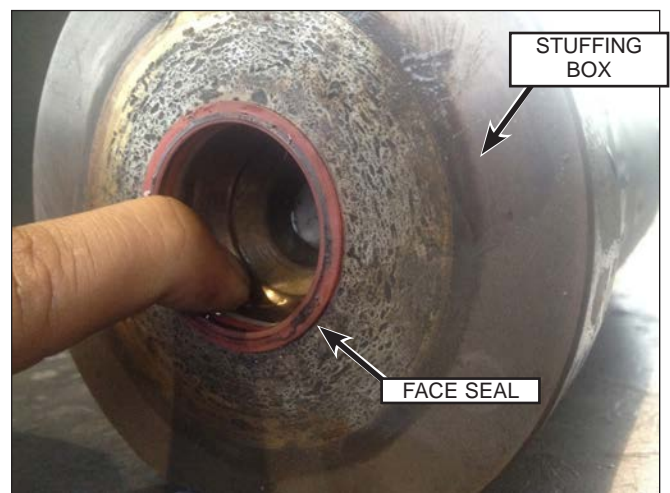

Figure 105: Face Seal Removed.
1. Press slightly behind the face seal using your finger and gently pull the seal out (Figure 105).